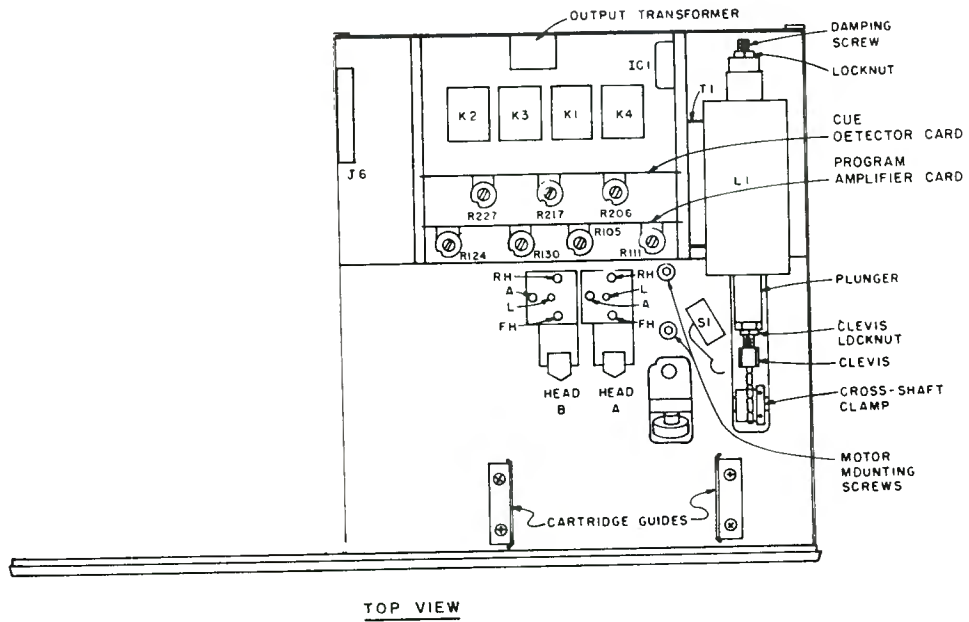

FIGURE 5-1
The adjustment procedure outlined below should be followed in positioning both the reproducing and recording heads. Only coarse height and zenith adjustments are required for a “dummy” head when used in position B. See Figure 5-1 for the location of the adjustment screws.
- c. Adjust the azimuth screw A (refer to Figure 5-1 for location) of the reproduce head to produce maximum output level.
IC1 is the regulated power supply. (See Figure 5-1 for location.) The output of this power supply is +24 volts. The regulated power supply is protected by F1, a fast acting ½ ampere fuse. The output of the regulated power supply is represented on the schematic diagram by a triangle which is common to all other points on the schematic shown with a like symbol. R3 and C4 provide decoupling and additional filtering for the program amplifier card.